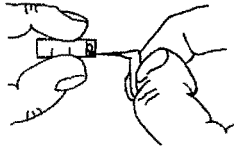

Figure 1
- Remove the spreader keys from the key card supplied with the CORELINK splice. Holding the splice as shown in Figure 1, insert the keys into the key entry ports (the holes closest to the edge of the splice). The key handle tabs should be parallel to the flat side and pointing away from the splice. Insert the keys all the way to their shoulders.